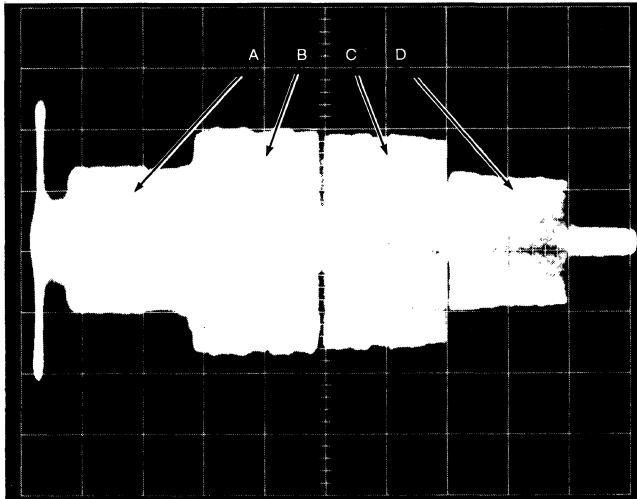

Figure 4-6. Head Azimuth Waveform
- f. Observe the waveform at TP4 should look similar to that of Figure 4-6. Examine the waveform for heads 1 and 2. If lobe A is greater in amplitude than lobe B or if lobe D is greater in amplitude than lobe C, then the head azimuth is out of alignment.